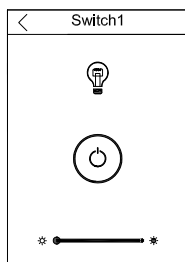

Fig.2
- 1.) Control switches: Select switch ID to enter the switch control interface. Tap the on/off icon to have turn-on or turn-off operation and slid the bar to have dimming operation (as shown in Fig. 2).